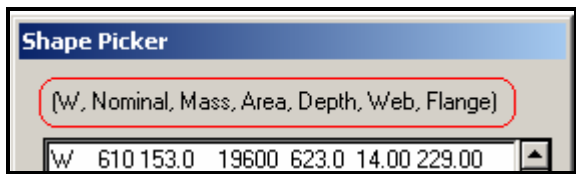

Figure 2-111: Steel Label
- 🎵 If you have a hard time decoding the steel designations here, take a look at the text at the top of the dialog (Figure 2-111). These items correspond to the columns of text in the body of the **Shape Picker**, and should help you find the shape you're looking for.